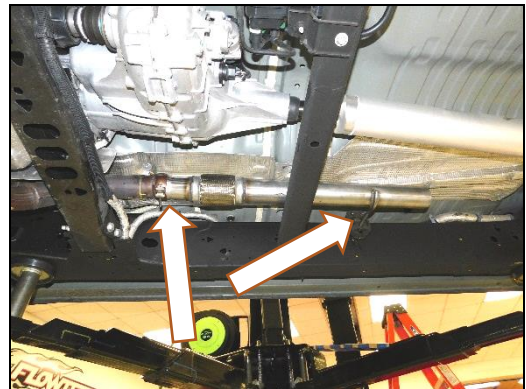

Figure 4
3. Slid on the (x2) supplied band clamps and install the right and left side over the axle pipes. Slide (x3) hangers in to the OE rubber isolators (**Figure 4**).